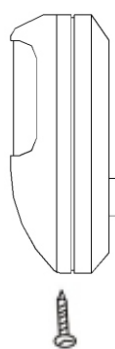

Figure 1
- 9.1 Make sure the upper cover is fixed properly on bottom base before installing this motion detector. As shown in figure 1, Mount the upper cover on bottom base, then fix them using screw.